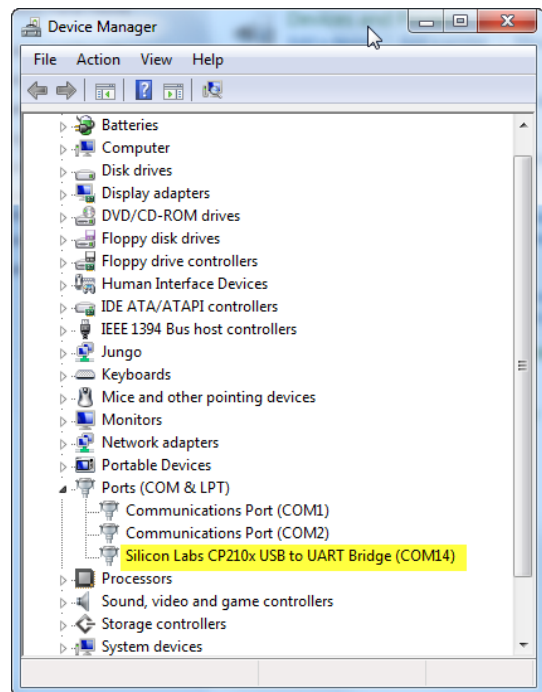

Figure 5 – Device Manager showing COM Port for A-910 Dongle
5. Locate **SILICON LABS CP210x USB to UART Bridge (COM x)** (see Figure 5).